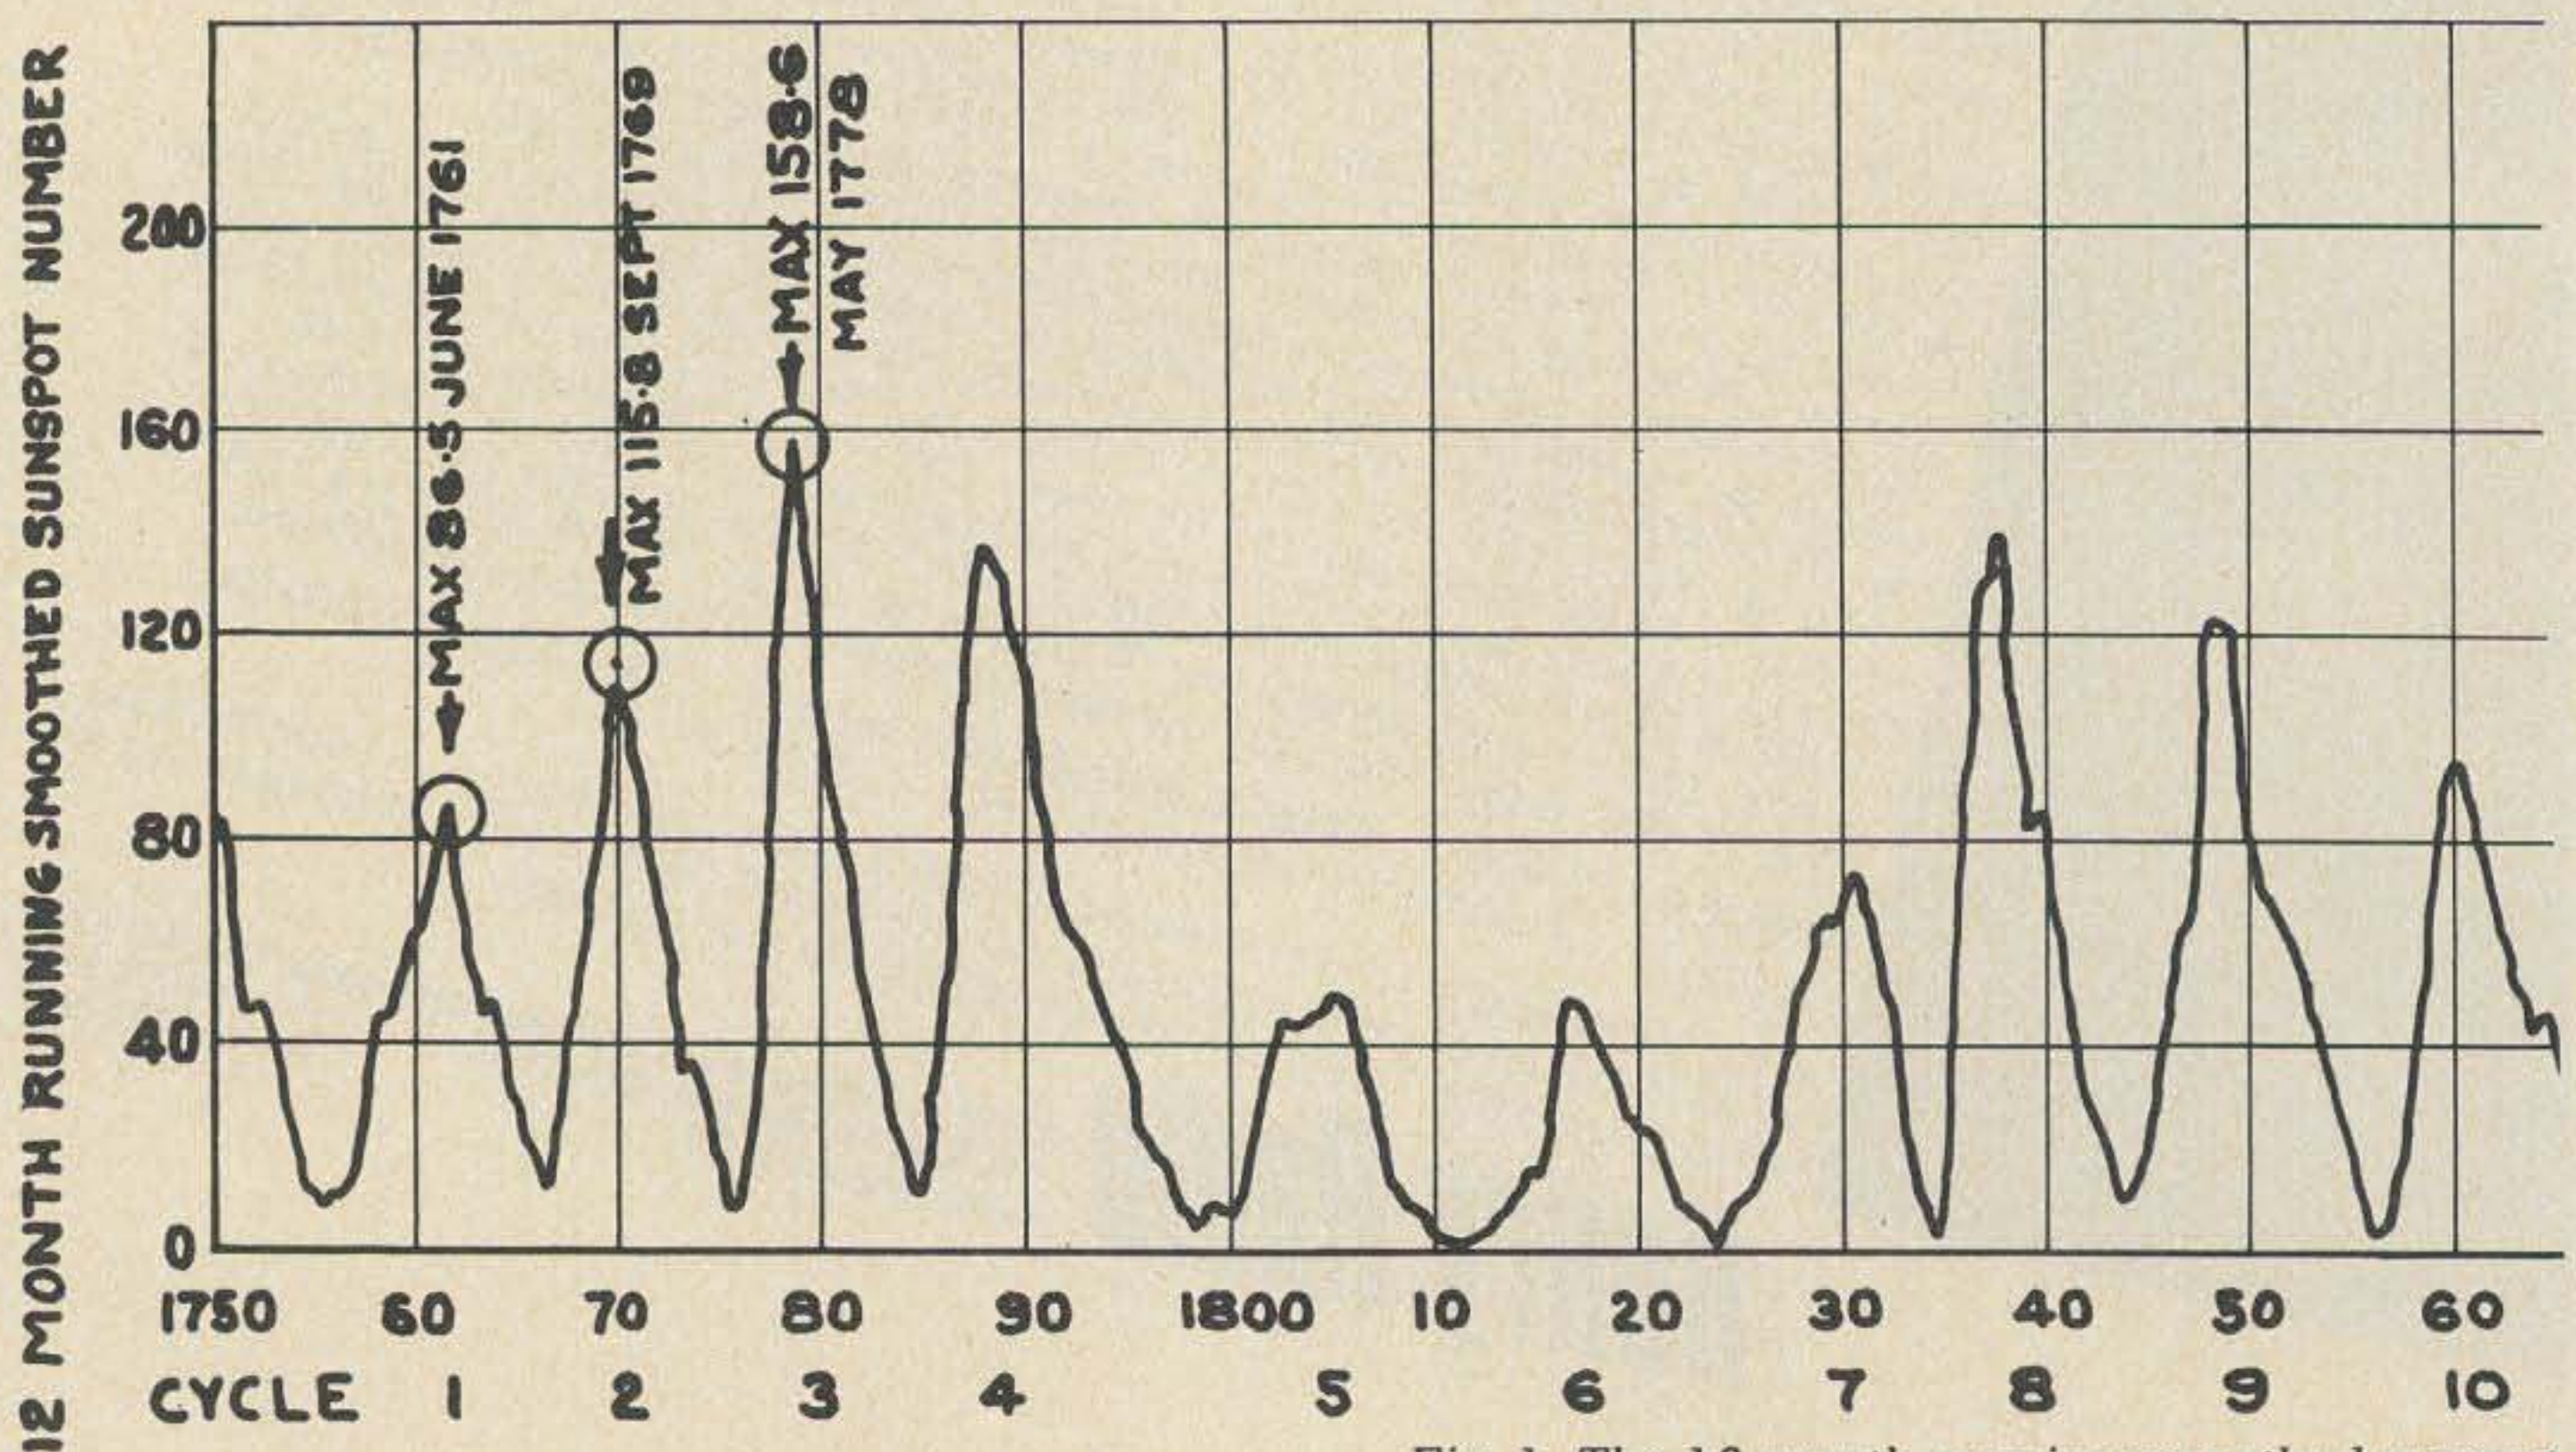

Fig 1. The 12 month running smoothed sunspot
Figure 1 shows the past history of the sunspot counts. It is plotted by years using the 12 month running smoothed sunspot numbers on the vertical axis. Years are used on the horizontal axis. Also shown are the cycle numbers, from 1 to the present cycle 20, which will end about the middle of 1975.
Before looking at Fig. 1 in detail, let us agree that the results shown are not finite. They are the results of telescopic observations of the sun made by numerous ob-
Now, looking at Fig. 1 we note some interesting points —
2. We have only one overall cycle to analyze and in the history of the individual cycles we have only 19. There is no regularity to the individual cycles. The average cycle appears to be 11.08 years. The individual cycles may vary widely (see Fig. 1).